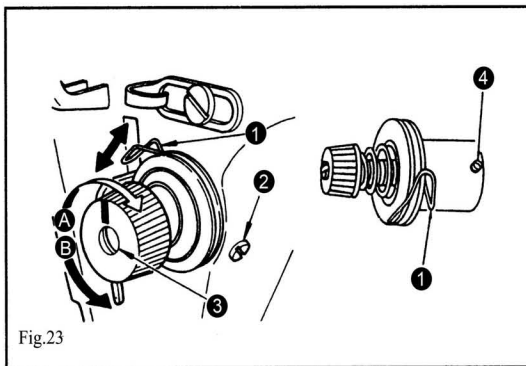

Fig.23
- 1) As you turn tension adjust screw ③ clockwise (in direction E), the bobbin thread tension will be increased.
- 2) As you turn screw ③ counter clockwise (in direction F), the bobbin thread tension will be decreased.
17. Thread take-up spring (Fig.23)